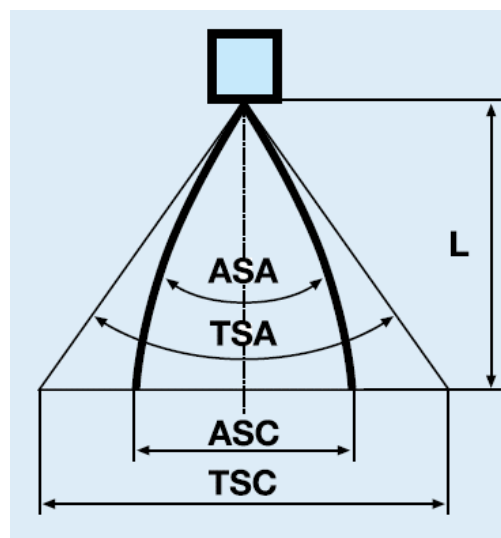

Figure 46: Effects of Drag and Gravity on Fan Nozzle Coverage Angle and Width
Pressure influences the spray angle of a fan nozzle. Increasing pressure correlates to widening spray angle of a fan nozzle and, as a result, coverage width (Spraying Systems Company). However, the effects of drag and gravity lessen the coverage width (PNR Italia S.R.L., p. 21). Referring to Figure 46, the Theoretical Spray Coverage (TSC) of a fan nozzle is much wider than the Actual Spray Coverage (ASC). Also, the Actual Spray Angle (ASA) decreases from the Theoretical Spray Angle as the spray travels over distance (L).